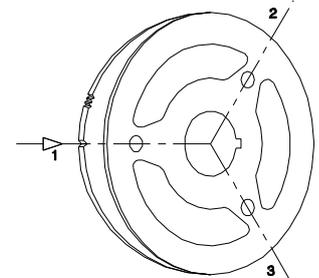

Fig. 28b:
- b. Three cylinder engine (W-SC10): After adjusting the valves of cylinder 1 turn the crankshaft 240 degrees clockwise from the T.D.C of cylinder 1 to the T.D.C of cylinder 3. Position 2 fig. 28b against the notch. Adjust the valves of cylinder 3. Then turn the crankshaft 240 degrees further clockwise to the T.D.C of cylinder 2 and adjust the valves; position 3 fig. 28b against the notch.